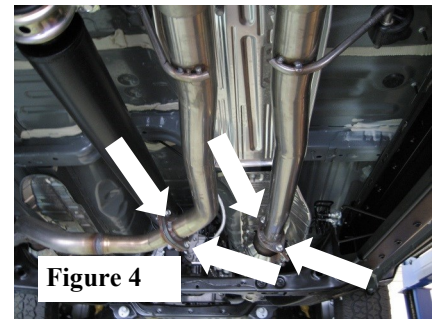

Figure 4
1. Install the **R/H Front Pipe Assembly** and **L/H Front Pipe Assembly** to flange using factory hardware and insert the hangars into the rubber isolators. (See Fig. 4)